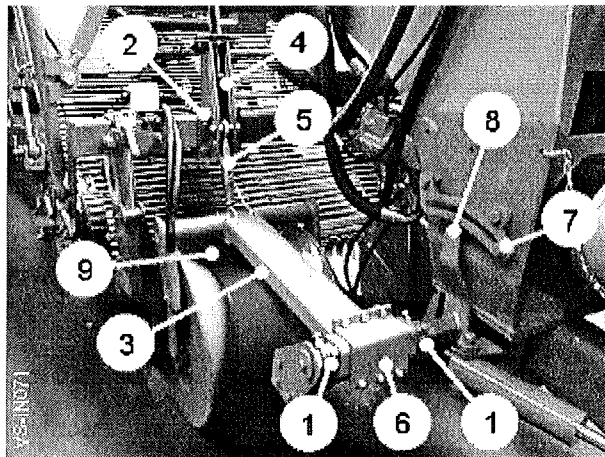

Fig 6
1. Release the clamp collars (item 1, fig 6) and reaction bracket bolts (item 2, fig 6).
2. Slide the roller frame (item 3, fig 6) and reaction bracket (item 4, fig 6) to the required setting and re-tighten.
The turnbuckle (item 5, fig 6) sets the working depth of the diablo rollers. Lengthening the turnbuckle will cause the shares to run shallower beneath the top of the ridge and shortening will allow the share to run deeper.
The diablo rollers are mounted on rubber torsion springs (item 6, fig 6) which allow the weight to be carried off the rollers to reduce compaction of the ridge, or for additional pressure to be put on the ridge to consolidate it in light conditions when the flow over the shares is poor. The diablo roller pressure setting needs to be made when the machine is in work so that the relative working position of the diablo roller to the ridge is correct. By positioning the stop (item 7, fig 6) behind the arm (item 8, fig 6) in the pressure-setting quadrant, weight is removed from the diablo roller. Positioning the stop in front of the arm puts extra pressure on the roller.
The diablo rollers are each fitted with a scraper (item 9, fig 6). The scrapers should be set as close to the rollers as possible without fouling them.